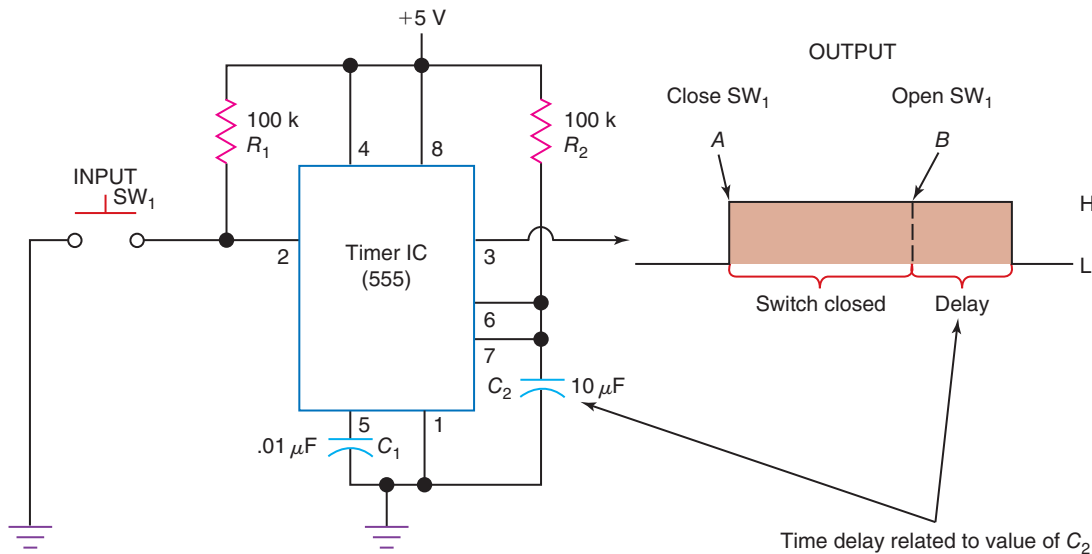

Fig. 5-15 Switch debouncing circuit using the 555 timer IC.
Another switch debouncing circuit using the versatile 555 timer IC is sketched in Fig. 5-15. When push-button switch SW_1 is closed (see point A on output waveform), the output toggles from LOW to HIGH. Later when input switch SW_1 is opened (see point B on waveform), the output of the 555 IC remains HIGH for a delay period. After the delay period (about 1 second for this circuit) the output toggles from HIGH to LOW.
The delay period can be adjusted for the switch debouncing circuit shown in Fig. 5-15. One method of adjusting the time delay is to change the capacitance value of C_2 . Decreasing the value of C_2 will decrease the delay time at the output of the 555 IC. Increasing the capacitance value of C_2 will increase the delay time.
36. Refer to Fig. 5-15. Pressing (closing) input switch SW_1 caused the output of the 555 IC to toggle from _____ (HIGH to LOW, LOW to HIGH).
37. Refer to Fig. 5-15. Releasing (opening) input switch SW_1 (see point B on output waveform) causes the output of the 555 IC to _____.
38. Refer to Fig. 5-15. The time delay at the output of the 555 IC can be decreased by _____ (decreasing, increasing) the capacitance value of C_2 .